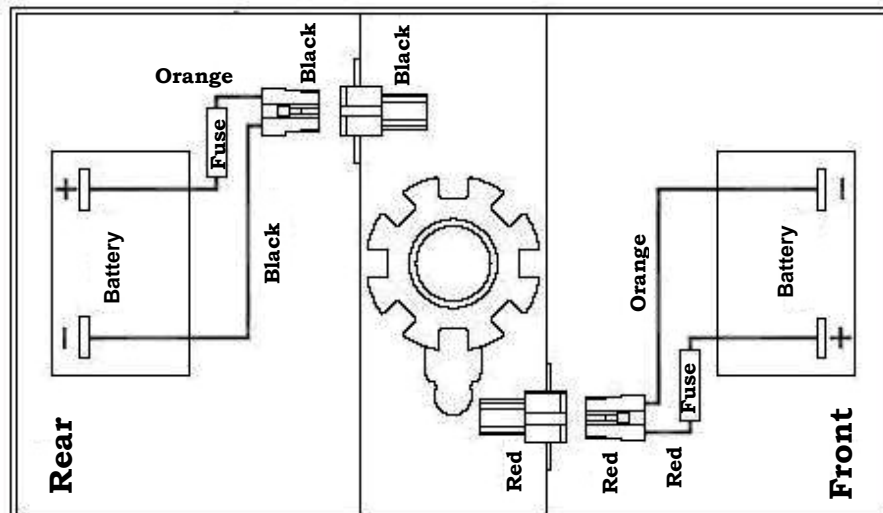

Figure 7
NOTICE There is a “Battery Connection Diagram” located on the inside of the rear battery box cover. See figure 7.
3. Place the batteries into the battery box. Be certain the color coded connectors match. Refer to the "Battery Connection Diagram" shown in figure 7 on page 14.